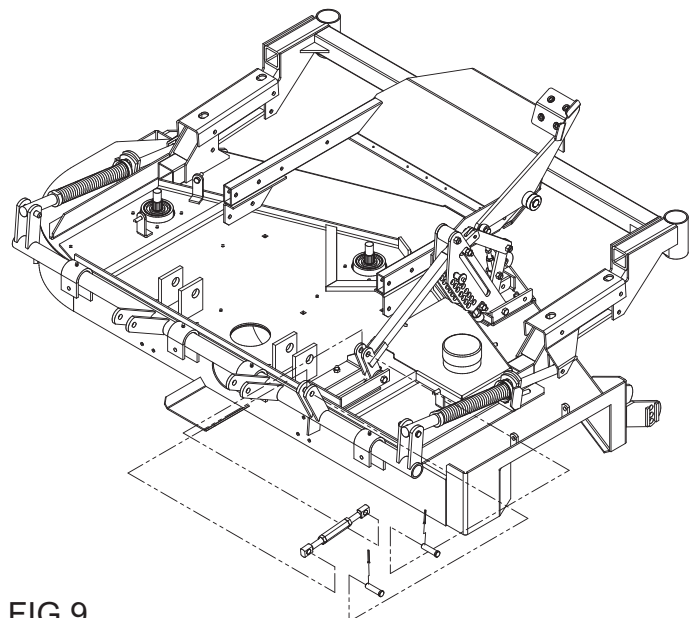

FIG 9
- J. The lift link assembly (594045) found in the bolt bag connects the height bracket assembly to the rear deck tube using the two 1/2" clevis pins and 1/8 x 1-1/4" cotter pins located in the bolt bag. Refer to Fig. 9.